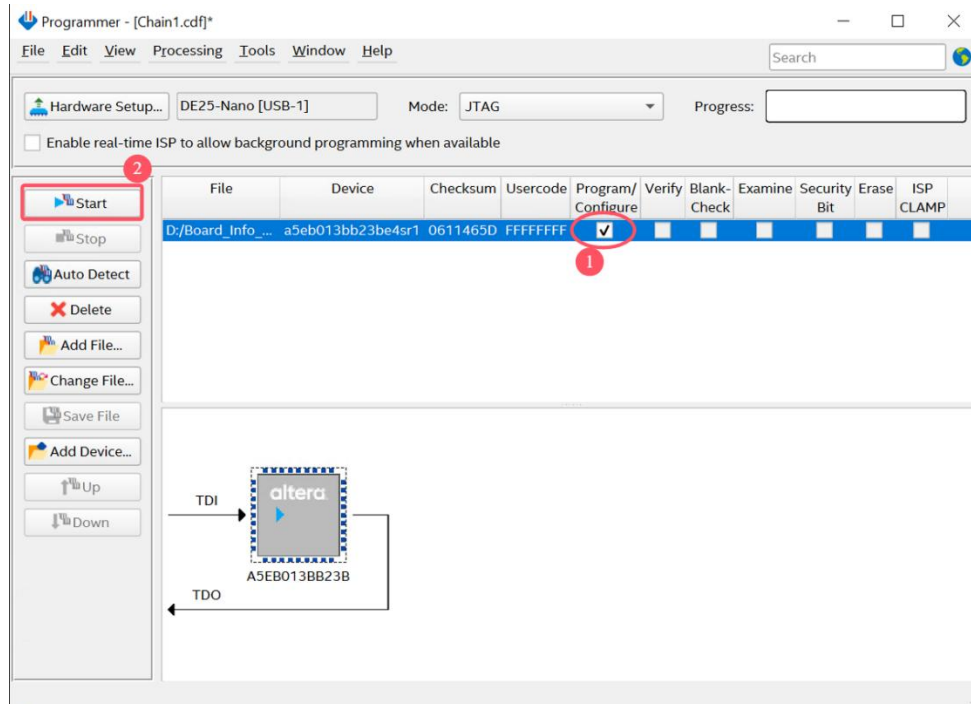

Figure 3-8 Program .sof file into the FPGA device
- Click the “Program/Configure” checkbox and click “Start” button to download the .sof file into the FPGA device, as shown in **Figure 3-8**.